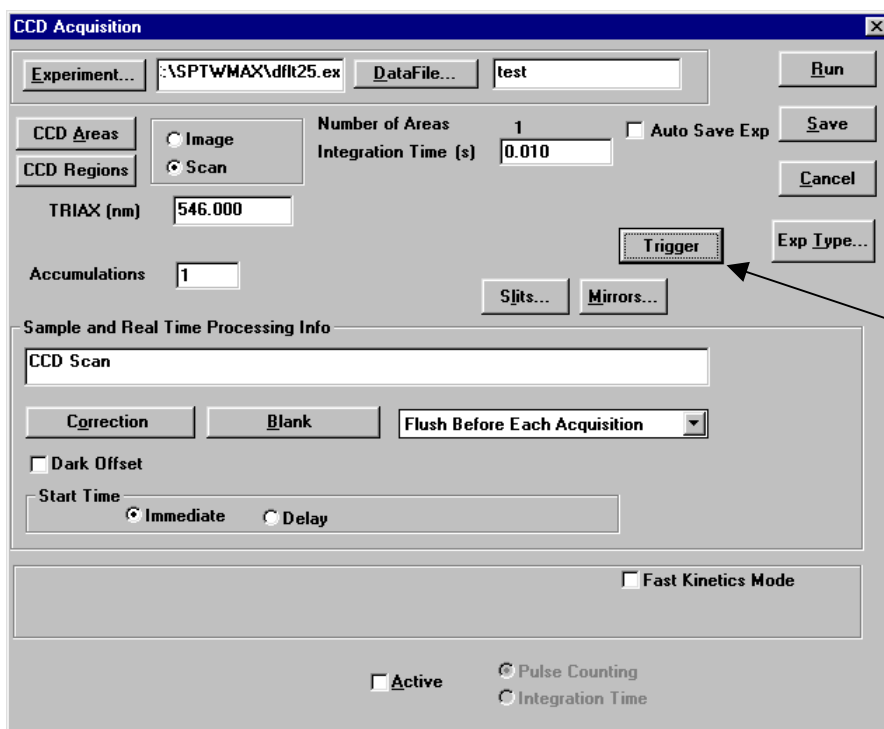

Figure 1. Trigger functionality can be selected in the CCD Acquisition window by clicking on the “Trigger” box.
2. Click on the box labeled “Trigger” as shown in Figure 1.